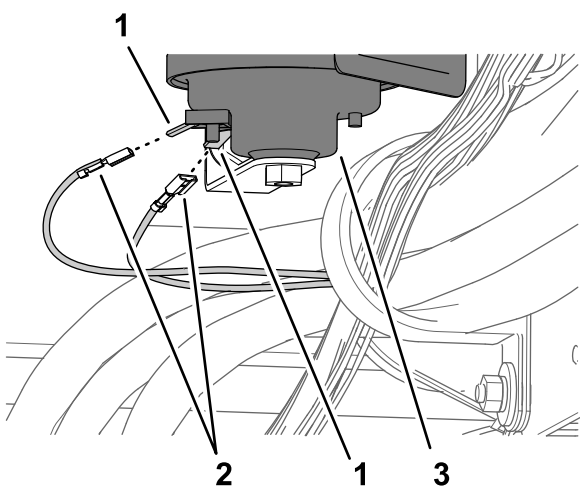

Figure 39
2. Plug the 2 terminals of the wire harness labeled HORN onto the 2 spade-electrical connectors of the horn (Figure 39).